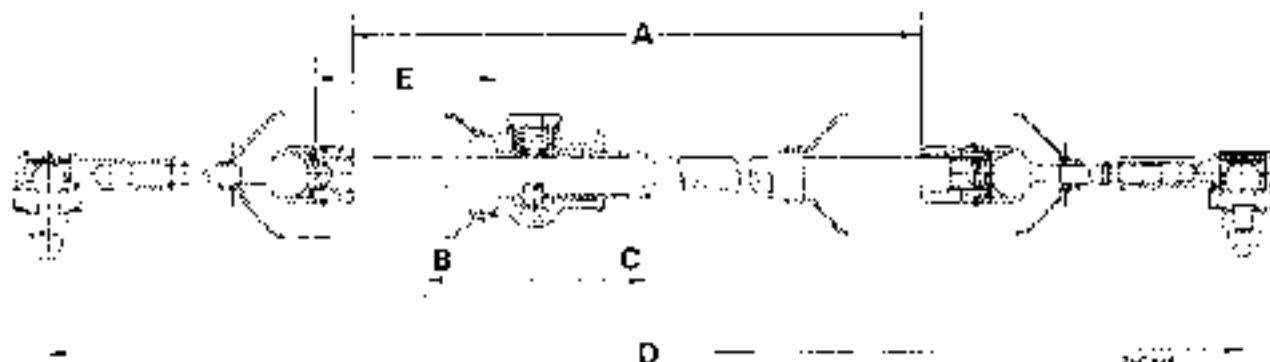

Fig. J.6
- (33) Immerse the pinion bushes and the plunger in S.A.E. 20 engine oil, and heat the oil to 100° C. (212° F.) for two hours, then allow the oil to cool before removing the bushes and plunger from the oil and fitting to the rack; this allows the pores of the bushes and plunger to be filled with lubricant.
- (34) Fit the bottom bush into the pinion housing as follows:
- (35) Fit the thrust washer, chamfered bore uppermost, into the pinion housing.
- (36) Insert the rack into the housing from the pinion end, noting the following:
- (b) Insert the rack into the housing with $3\frac{1}{2}$ in. (88.90 mm.) of the teeth end protruding from the 'travel' abutment face of the pinion housing (see dimension 'E' of Fig. J.6).